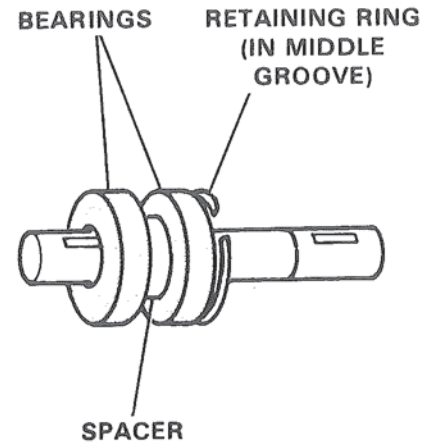

Figure 9. Installing Bearings.
- D. Install retaining ring into middle groove of shaft and press one bearing flush against it. Install a spacer against the first bearing, second bearing against the spacer. Figure 9.